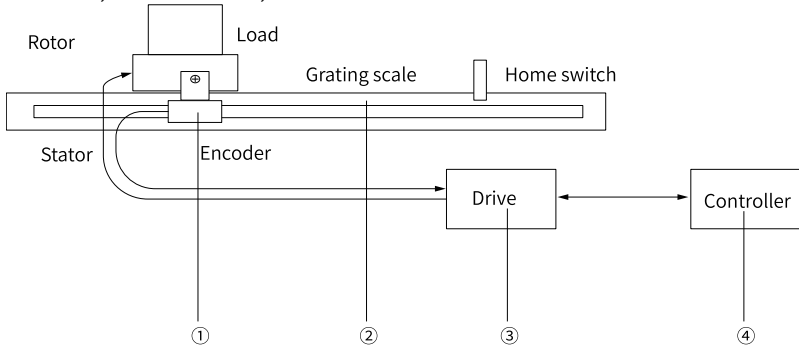

Figure 6-9 Schematic diagram of accuracy compensation of linear motor
2. Apply accuracy compensation control, as shown in "Figure 6-9 " on page 387 . Encoder ①, linear motor ②, drive ③ and controller ④ are involved.